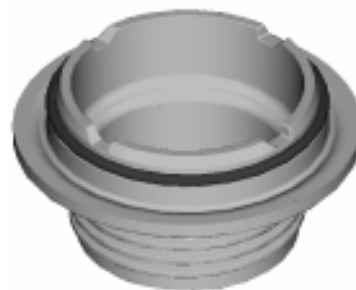

FIG. 3
- The valve adapter o-ring sits on the first step on the adapter. See Figure 3.